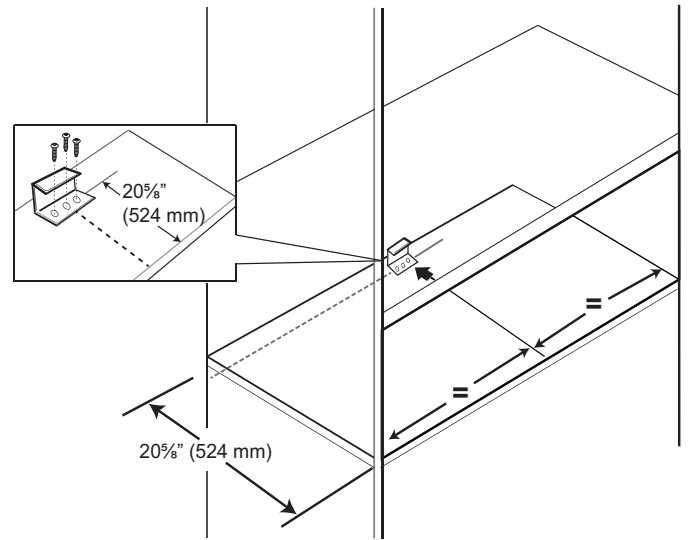

Figure 8: Anti-tip Bracket Location
3. Position the anti-tip bracket on the floor of cabinet opening $20\frac{5}{8}$ " (524 mm) from the cabinet edge and spaced equally centered for model type, as shown in *Figure 8*.
- Secure with three (3) 3/4" (3.175 mm) Phillips head screws (included).